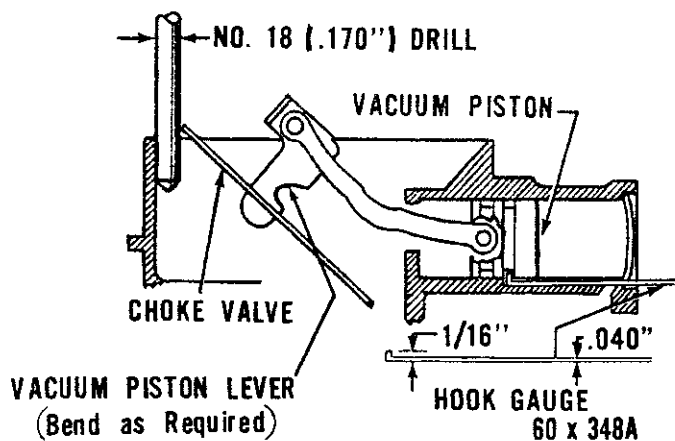

Fig. 21—Vacuum Kick Setting
(1) Remove the welsh plug from the choke piston cylinder, and insert a hook gauge (.036 to .040" diameter) into the slot in the cylinder wall. Rotate the hook end so that it engages the end groove in the piston. Apply light closing pressure against the choke valve so that the hook gauge is trapped between the groove in the piston and the end of the slot, as shown in Figure 21. It should be possible to insert a #18 (.070") drill between the air horn and the choke valve. If an adjustment is necessary, bend the end of the bracket as shown, until the correct opening has been obtained.